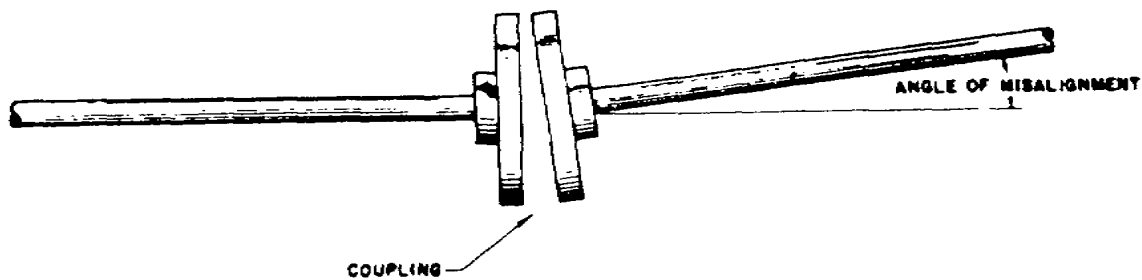

Figure 2.3. Angular Misalignment.
b. Angular misalignment. When the two shafts come together at a slight angle, angular misalignment, illustrated in figure 2.3, is present. In addition to setting up vibration, such misalignment causes bending stresses to be set up in the shafts and results in additional bearing loads. The more flexible the coupling, the less will be the load on the bearing and the less stress will be set up in the shaft.